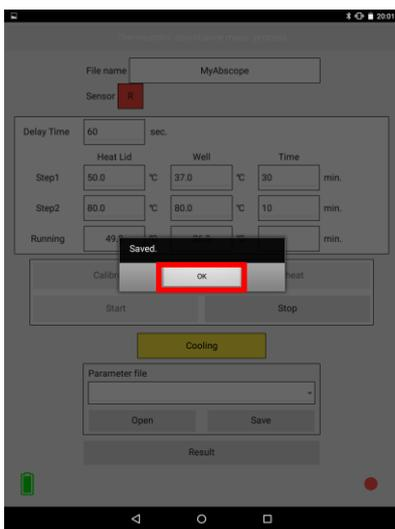

Figure 4-31: Indication of Saved state
(17) After the preset second-step process time has elapsed, you will be informed that the data is saved as shown in Figure 4-31. Then tap “OK.” The process data is saved in the CSV format (with the file name entered in the input field (1) on the thermostatic absorbance measurement process setting screen, which is suffixed with “_yymmddhhmmss.csv” (see “5. Data Analysis,” (CSV file)). Three seconds after the preset second-step process time has elapsed, the cooling fan starts to operate, and the status indication changes to “Cooling” as shown in Figure 4-32. When both the HeatLid temperature and Well temperature have fallen below 35°C (within about 10 minutes or less), cooling is finished, and the status indication changes to “Ready” as shown in Figure 4-33.